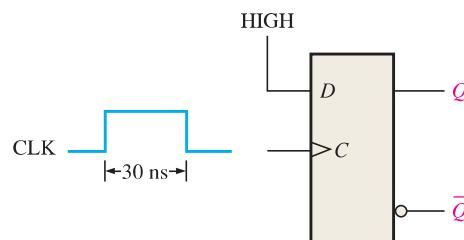

FIGURE 7–88
- 24.** For the circuit in Figure 7–89, determine the maximum frequency of the clock signal for reliable operation if the set-up time for each flip-flop is 3 ns and the propagation delays (t_{PLH} and t_{PHL}) from clock to output are 6 ns for each flip-flop.